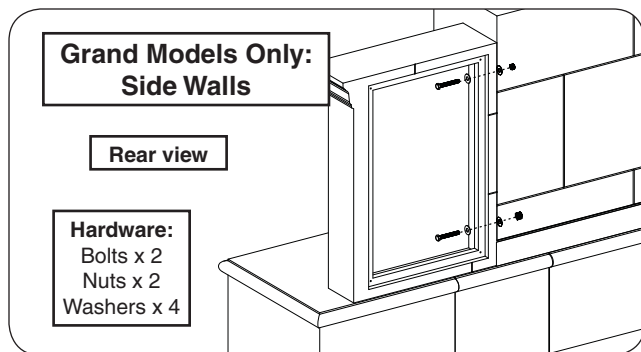

Fig. 19-1 Assemble side-wall (skip if n/a)
1. Place one main side-wall piece beside the fireplace body as shown. Carefully align the pilot holes, and repeat the hardware installation process. See Fig. 19-1.